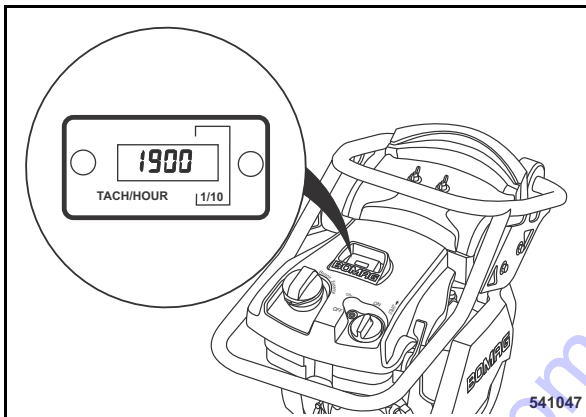

Fig. 68
- After approx. 30 to 40 seconds read the idle speed from the existing engine rpm-meter (Fig. 68).